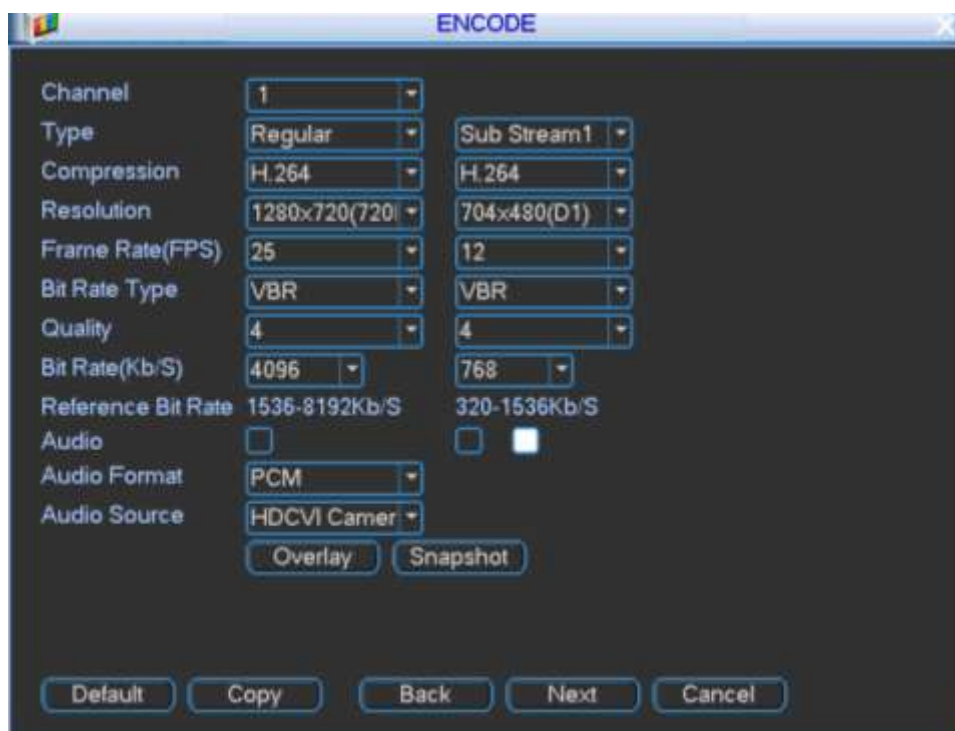

Figure 4-5
- Step 4 Click Next, the encode interface is shown as in Figure 4-5.